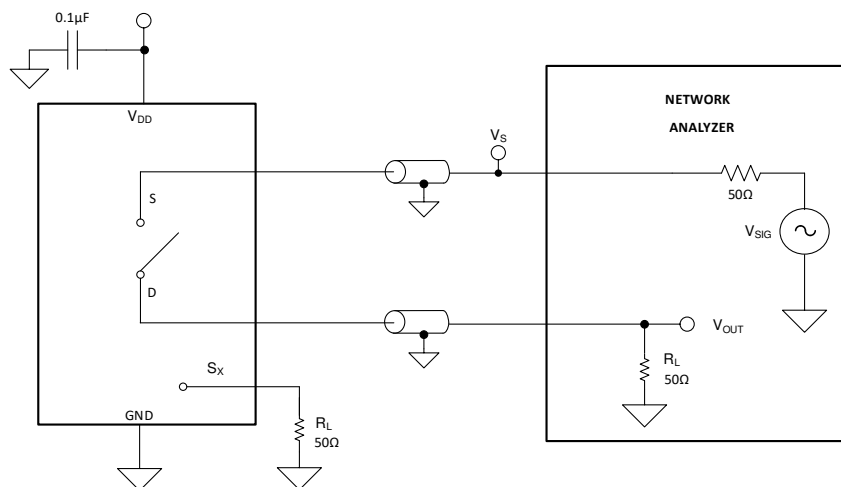

Figure 14. Off Isolation Measurement Setup
Off isolation is defined as the ratio of the signal at the drain pin (D) of the device when a signal is applied to the source pin (S_x) of an off-channel. Figure 14 shows the setup used to measure, and the equation used to calculate off isolation.